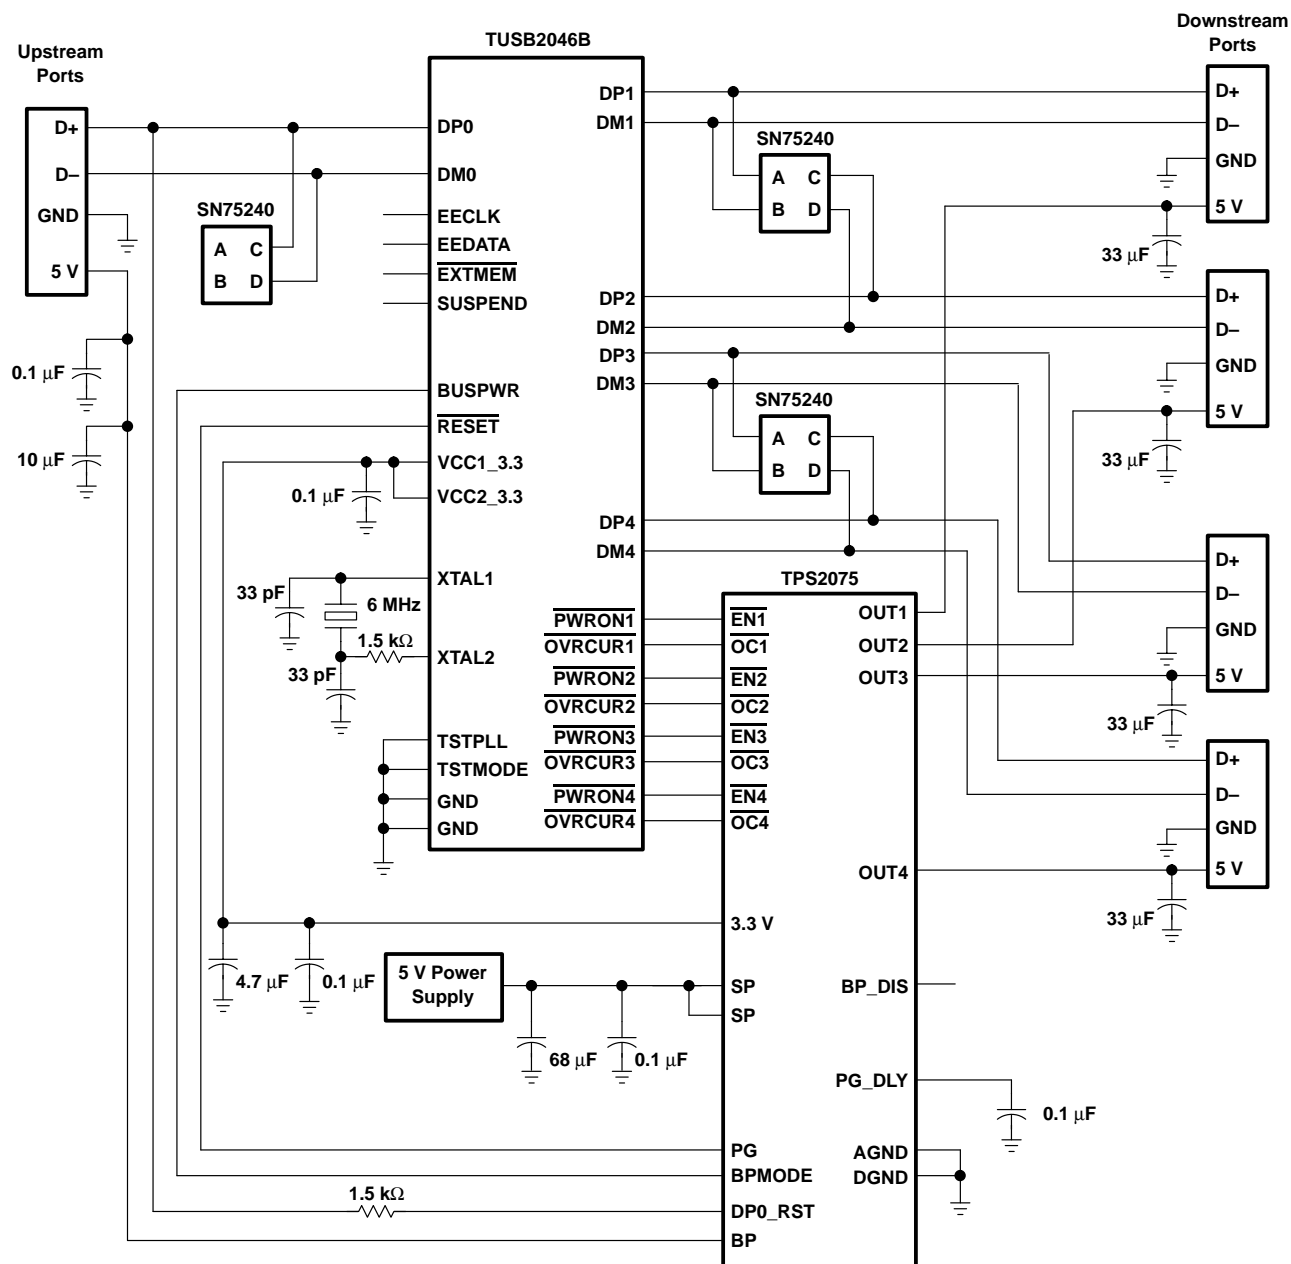

Figure 33. USB Hybrid Hub Using TPS2075 Power Controller and TUSB2046 Hub Controller
A USB hybrid hub can be simply implemented using the TPS2075 USB power controller and a TUSB2046 USB hub controller as shown in Figure 33. The TPS2075 USB power controller provides all the power needs to the four downstream ports and meets all the USB power specifications for both self-powered hubs and bus-powered hubs. The power controllers integrated 3.3-V LDO is used to provide power for the hub controller and any other local functions (e.g. transient suppressor SN75240), which saves board space and cost. The TPS2075 also provides the hub controller with a power good (PG) signal that connects to the $\overline{\text{RESET}}$ input of the hub controller to automatically reinitialize the hub when switching between self-powered mode and bus-powered mode whenever the self-power supply is connected or disconnected. The amount of time in which the hub controller is kept in a reset state is controlled by a capacitor connected between the PG_DLY pin of the power controller and ground.